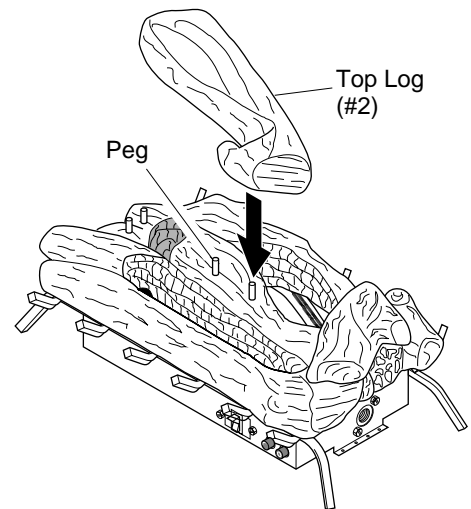

Figure 20 - Installing Top Log (#2)
2. Facing front of unit, place top log (#2) onto the pegs in the center of the bottom log (see Figure 20).